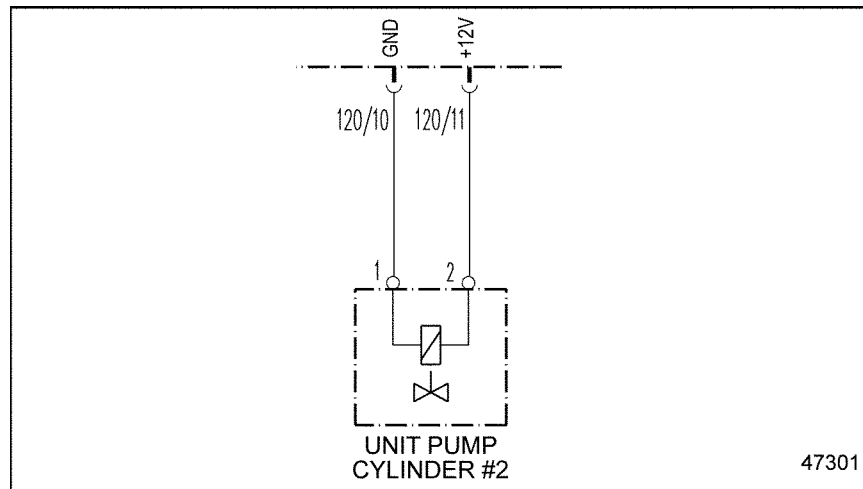

Figure 46-2 Electronic Unit Pump #2
3. Disconnect pins 1 and 2 of Electronic Unit Pump #2. See Figure 46-2.